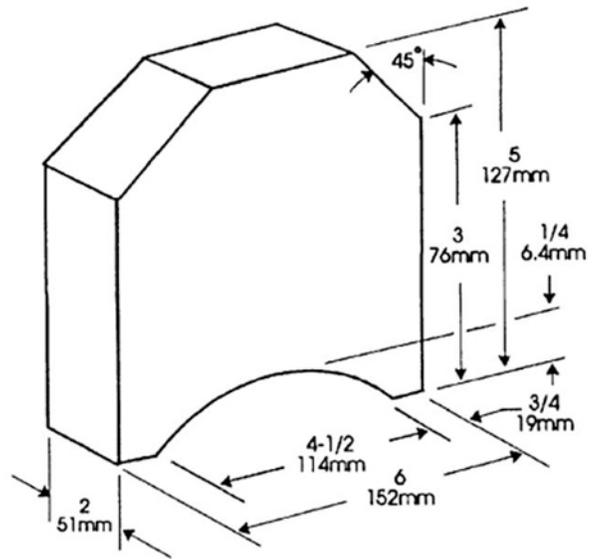

Fig. 16
- Gauge block of hard wood made with the dimensions as shown in Fig. 16.